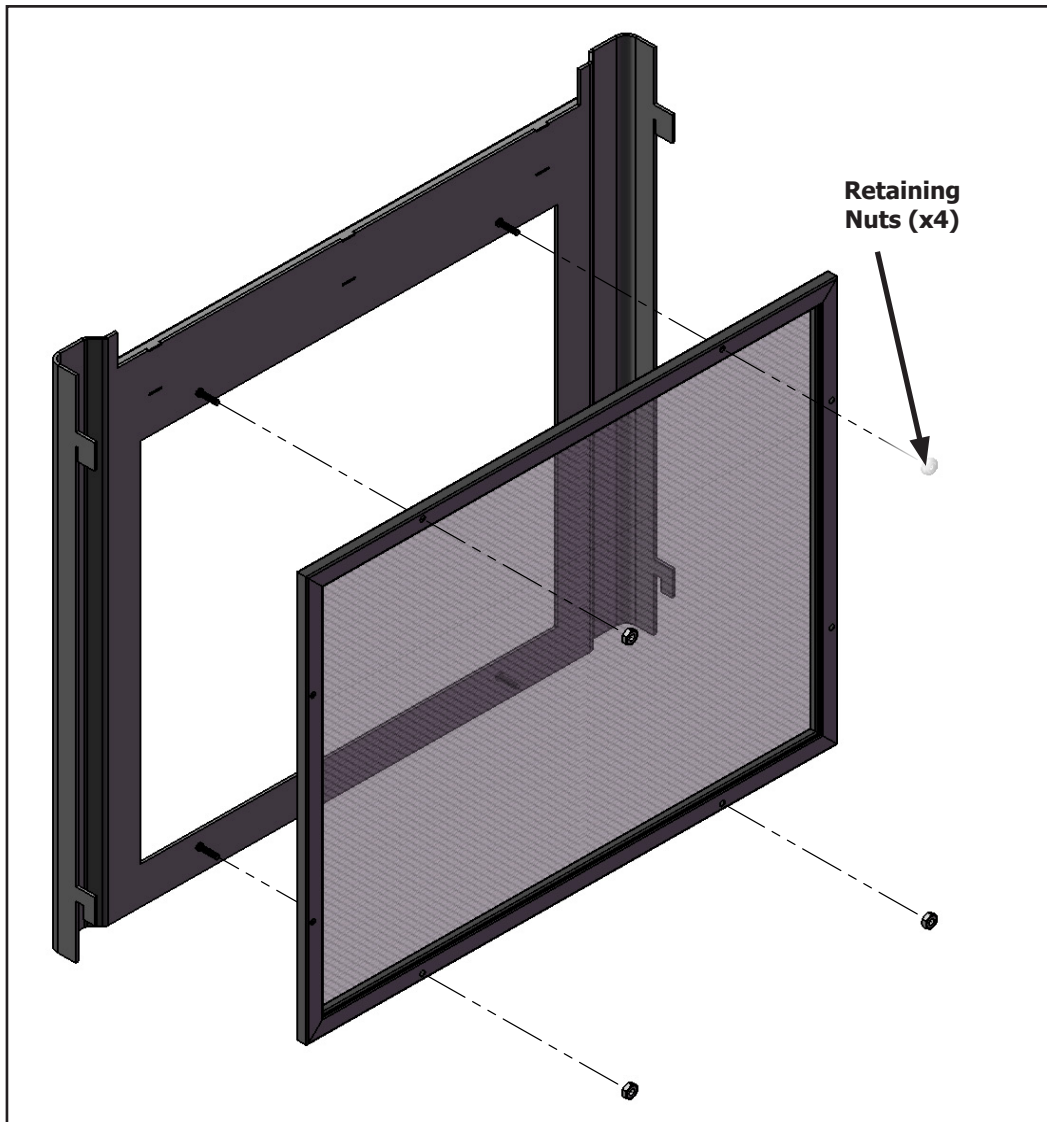

Figure 54. Safety Screen Removal
Step 3: Remove the four retaining nuts from the back of the steel door (Figure 54) using a 11/32" socket or wrench.